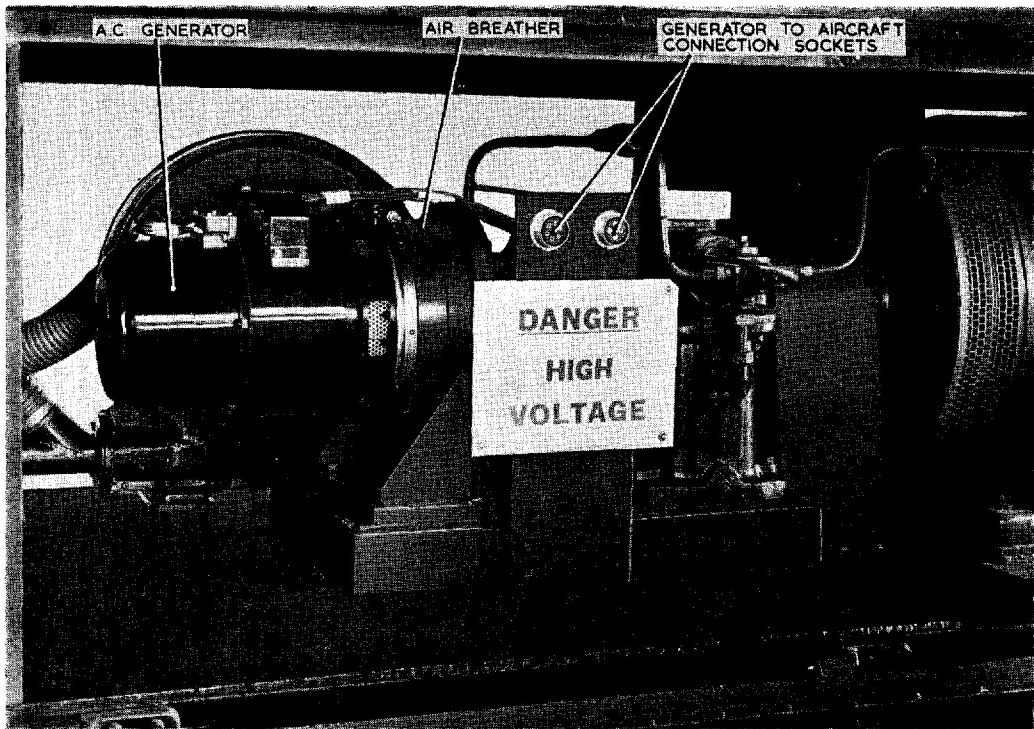
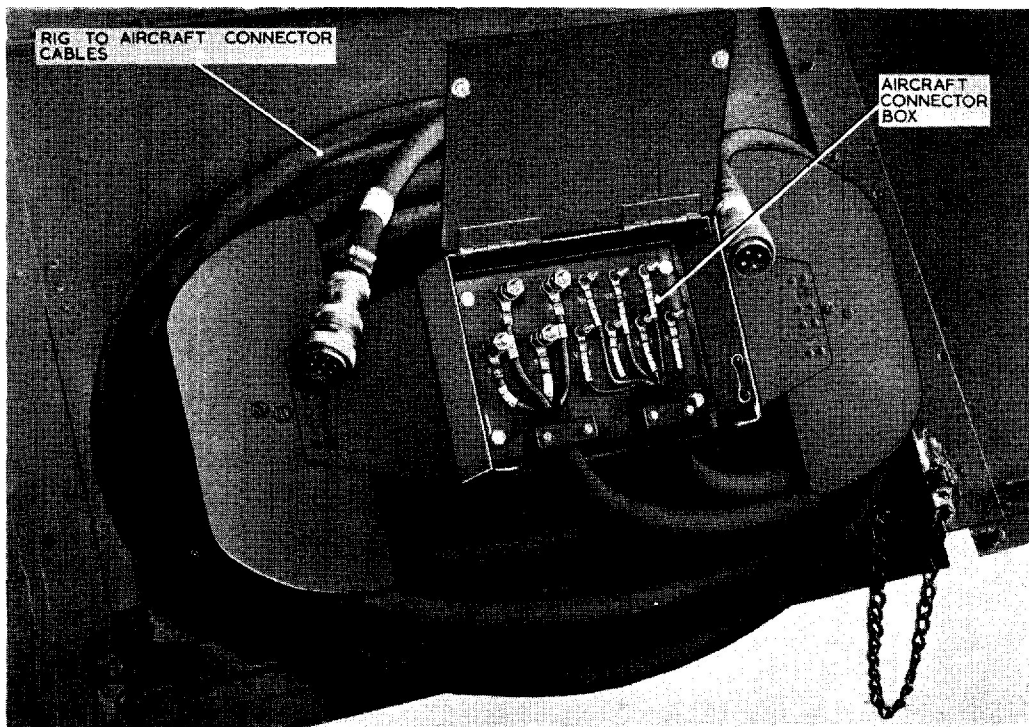

Fig. 5. A.C. generator type 162
Fig. 6. Rig to aircraft connections
14. The a.c. generator Type 162 (fig. 5) is mounted on a bracket located at the aft end of the trolley and is driven through the gear-box by the drive motor. Connections to the generator are brought out to two multi-pole sockets which are also shown in fig. 5. Complete information on the generator Type 162 is contained in A.P.4343A, Vol. 1, Sect. 2.
15. One four core and one seven core cable together with a connector box (fig. 6) are located on the trolley side-cover adjacent to the a.c. generator. Plugs attached to the ends of the cables, when connected to the sockets (fig. 5), complete connections between the generator output terminals and field system to the aircraft connector box.
- (2) Insert the end of the air hose into the duct at the base of the aircraft fin.
- (3) Open the side-panels on both sides of the trolley.
- (4) Complete the connections between the trolley and the aircraft by removing the aircraft connector box (fig. 6) and making the connections into the aircraft power supply system.
- (5) Depress the START button on the blower motor starter and start the drive motor as described in para. 18.